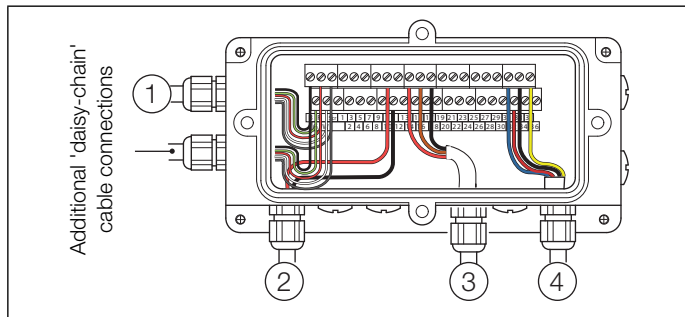

Fig. 4.3 Wet section PCB cable entries
Referring to Fig. 4.3 and Table 4.1 for terminal connection details:
3. Loosen cable gland (A) at the wet-section PCB housing (B).
4. Disconnect the flowmeter cable (C) from wet-section PCB terminals 13 (red, +ve), 15 (brown, GND) and 17 (black -ve) – see Fig. 4.3, page 3 and remove cable.
5. Depress the QD coupling collar (D) on QD coupling (E) and lift the top QD coupling (E) complete with sample outlet tube (F) away from the flowmeter (G).
6. Depress the QD coupling collar (J) on QD coupling (K) and lift the flowmeter away.
7. Fit the replacement flowmeter into the QD coupling (K) and refit QD coupling (E) to the flowmeter outlet.
8. Pass the flowmeter cable through the cable gland (A) at the wet-section PCB housing (B) and terminal connections to PCB terminals 13 (red, +ve), 15 (brown, GND) and 17 (black -ve) – see Fig. 4.3, page 3.
10. Ensure the sample outlet tube (F) is located correctly in the tundish assembly (I).
1. Depress the manual override button (A) on the drain valve (B) to drain the wet-section.
2. Disconnect the clip-on cable connector (C) from the end of the drain valve coil housing by depressing the clip (D).
3. Disconnect the drain tube from the barbed outlet connector (E) on the bottom of the drain valve (B).
4. Lock hex coupling (G) and rotate nut (H) clockwise to release couplings. Remove the valve assembly, complete with coupling (G). Remove coupling (G) from the valve assembly and fit to new valve, complete with new bonded seal (I).
5. If fitting a new drain valve cable assembly, remove the wet-section cover as detailed in step 1 of Section 4.1, page 3 and loosen the drain valve cable gland in the wet-section PCB housing and proceed with steps 7, 8 and 9 below. If using the existing cable, re-connect the clip-on cable connector (C) to the end of the drain valve coil housing.
6. Disconnect the drain valve cable from the terminal block – see Fig. 4.3, page 3 and discard the cable.
7. Feed the replacement drain valve cable through the cable gland and make connections to the black, red, screen, green and white PCB wet-section terminals (see Fig. 4.3, page 3) and at the transmitter (see OI/ADS550-EN).
8. Connect the drain valve clip-on cable connector (C) to the end of the drain valve coil housing.